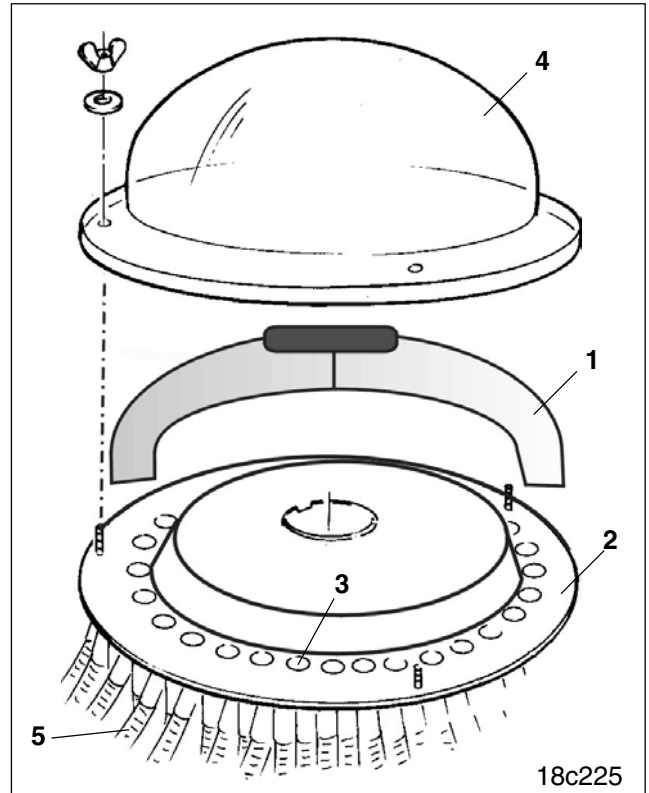
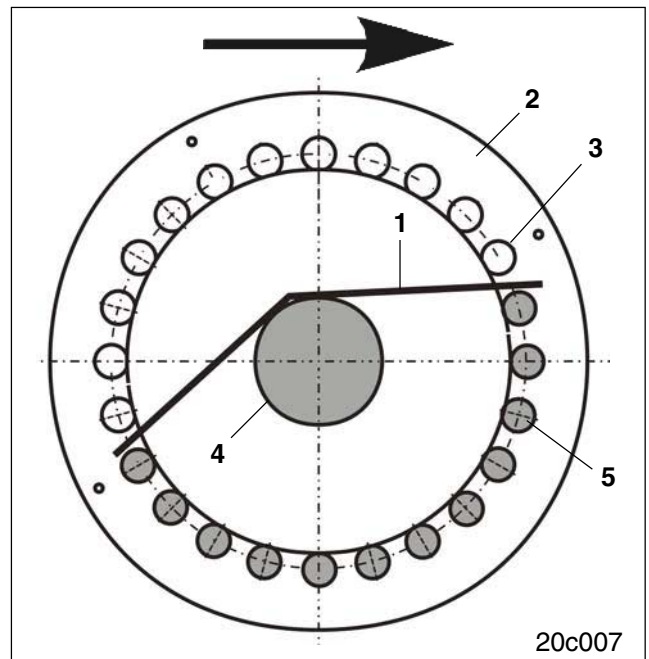

Fig. 26.10
Fig. 26.11
With the insert (Fig. 26.10/1) for the half-side shutting of the outlets in the distributor head the seed flow is guided to half of the outlets (Fig. 26.10/3) and thus to half of the coulters. This way, at random, the seed delivery to the coulters can be interrupted on the right or left hand implement side and you can sow with the other implement half.
- Remove distributor hood (Fig. 26.10/4).
- set the insert (Fig. 26.10/1 or Fig. 26.11/1) on to the distributor plate (Fig. 26.10/2 or Fig. 26.11/2) that the desired outlets will be shut off by the insert.
- In top view (see Fig. 26.11)
- shut off, not hatched outlets (Fig. 26.11/3) are on the side behind the corrugated tube (Fig. 26.11/4)
- open, hatched outlets (Fig. 26.11/5) are on the side in front of the corrugated tube (Fig. 26.11/4).
- In any case check the routing of the seed guide tubes (Fig. 26.10/5) to ensure that the insert shuts off the seed flow to the correct coulters.
- Mark the position of the insert with a suited pencil on the distributor plate (Fig. 26.11/2) so that you may quickly find the correct position of the insert on the distributor plate later on.
- Fix the distributor hood (Fig. 26.10/4) on the distributor head. When fixing the distributor hood the insert (Fig. 26.10/1) is clamped.